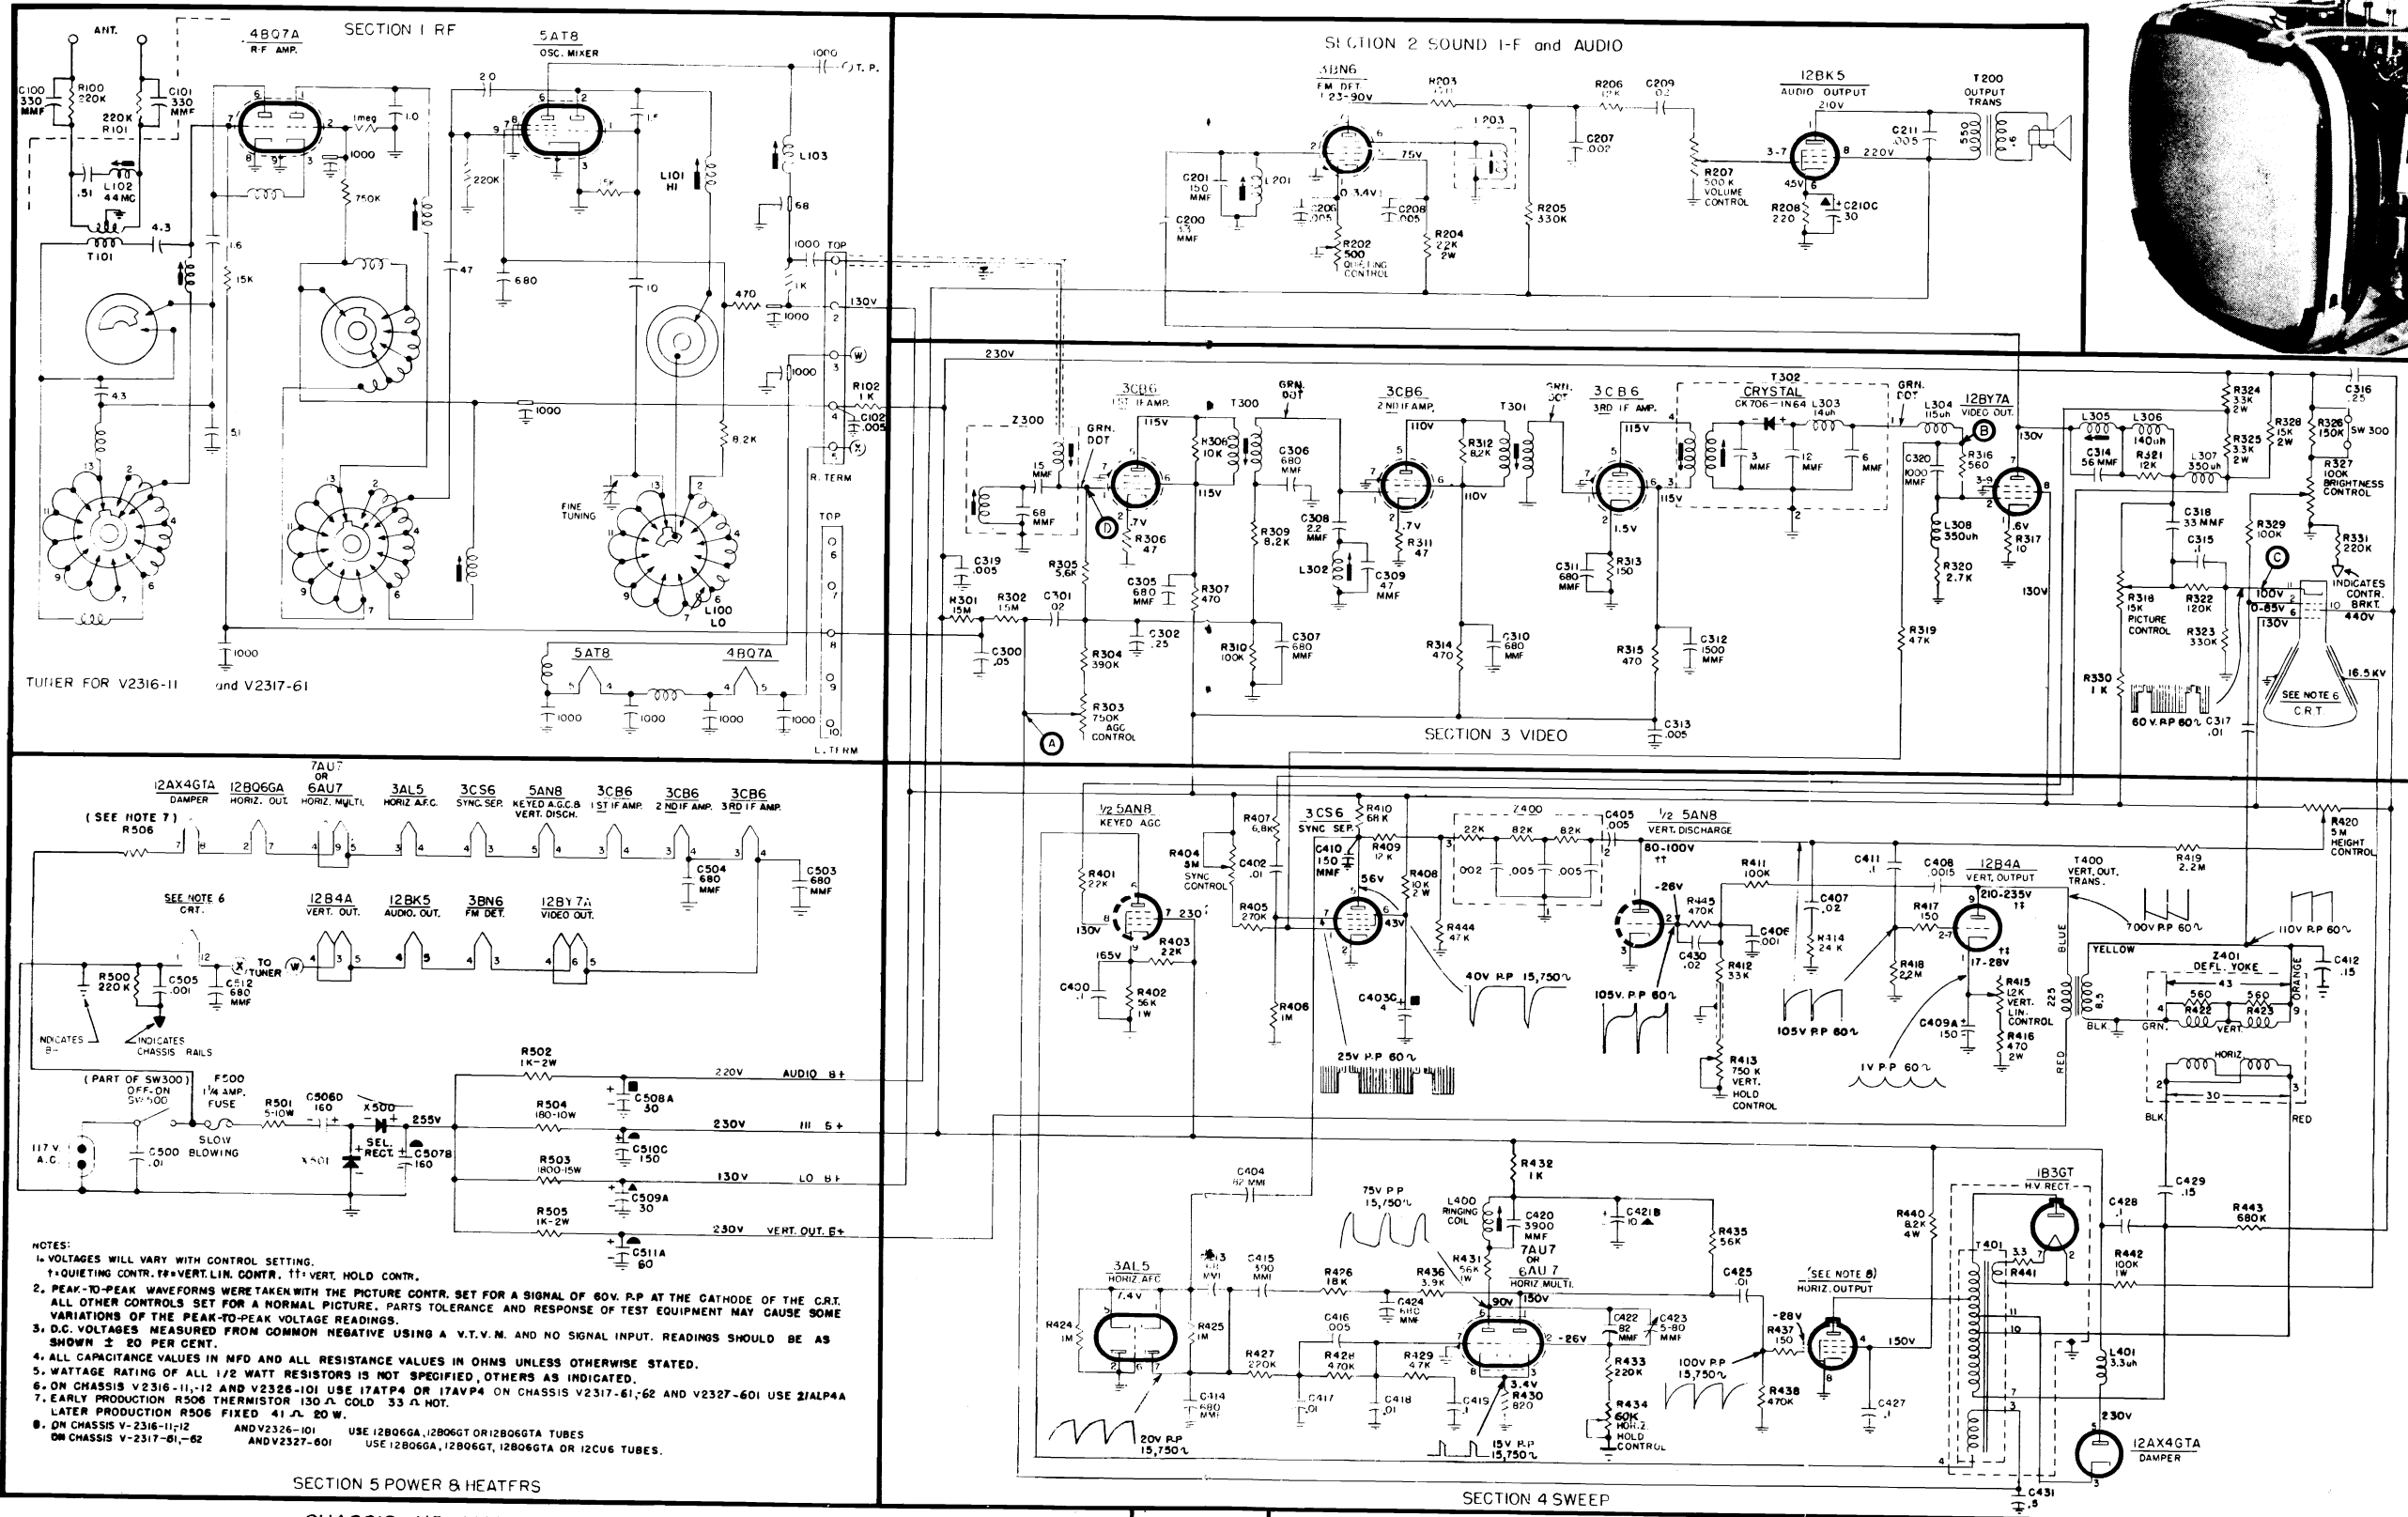
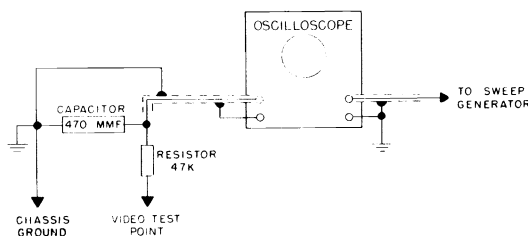

Fig. 8 Schematic Diagram
Fig. 5 Oscilloscope Connections
1. Connect the VTVM (-5 volt range) to point "B" as shown on the schematic diagram Fig. 8.
2. Connect the RF generator, capable of providing frequencies ranging from 40 to 50 mc. (unmodulated) to point "D" as shown on the schematic diagram (See Fig. 8).
3. Apply -9 volts bias to point "A" as shown on the schematic diagram Fig. 8.
5. Remove the VTVM and connect the vertical input of the oscilloscope to point "B" see Fig. 8 using the isolation network as shown in Fig. 5.
6. Remove the RF signal generator from point "D" see Fig. 8.
2. If the specific frequency of the signal causing the interference is known, connect an RF signal generator (unmodulated) tuned to the interfering frequency to the antenna terminals. Connect a VTVM to the video detector, point B on Fig. 8 and adjust trap L102 for minimum reading.
1. Connect the high side of the signal generator to the video test point (point "B" on Fig. 8) through a .001 mfd mica capacitor, and ground to B-.
3. Connect the common lead from the VTVM to B-, and connect the R-F probe from the VTVM to the cathode of the CRT. This point is shown as (point "C" on Fig. 8). Note that this point is above ground potential and, therefore the R-F probe must contain a blocking capacitor.